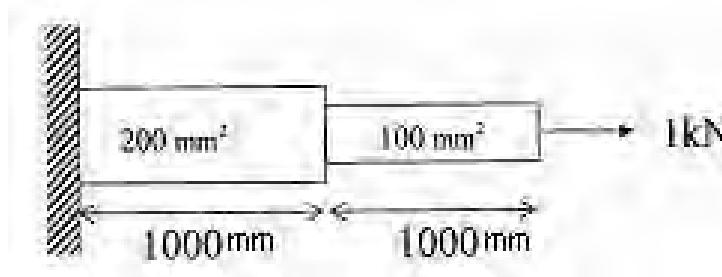

Figure 1
1. Find the displacement at the free end and the reaction force for the following problem. Assume $E = 2 \times 10^5 \text{ N/mm}^2$. {As shown in the Figure1} [16]